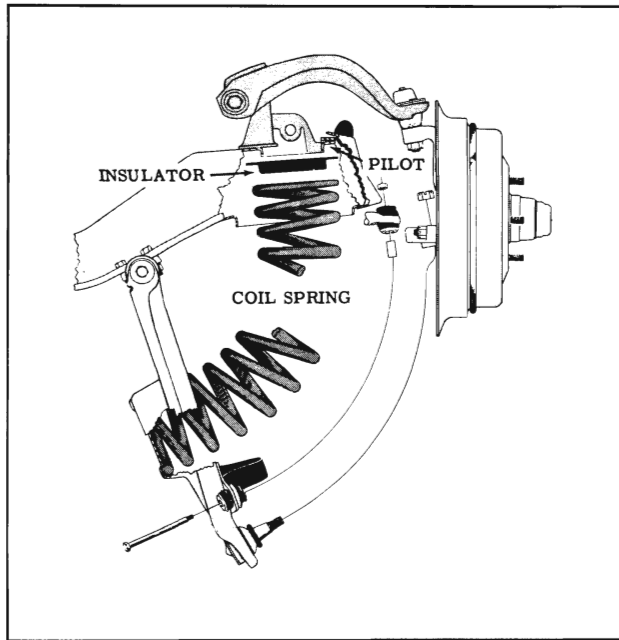

Fig. 5-22 Coil Spring Installation
3. While holding spring and insulator against pilot in frame cross member, tilt spring so it will pilot in lower control arm. (Fig. 5-22) Rotate spring so the end of the bottom coil will index with edge of hole in control arm spring seat. The coil should not cover any portion of the hole.